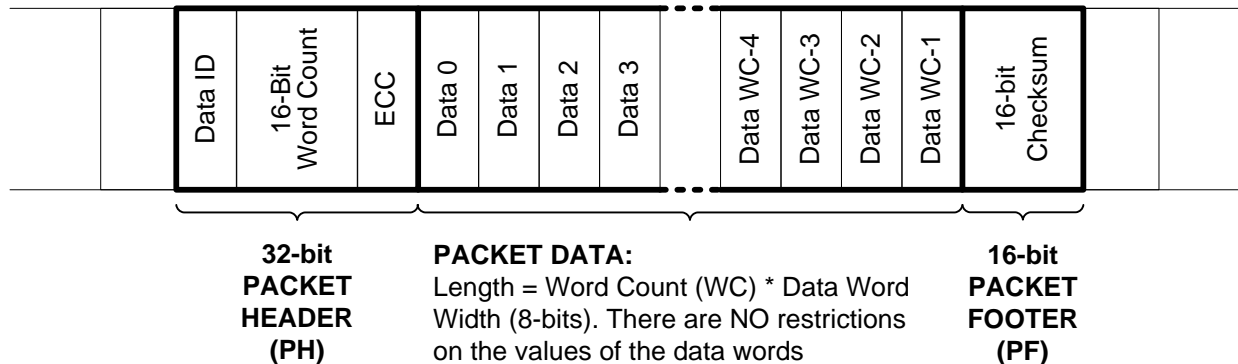

图 22. CSI-2 Long Packet Structure
A long packet consists of three elements: a 32-bit packet header (PH), an application-specific data payload with a variable number of 8-bit data words, and a 16-bit packet footer (PF). The packet header is further composed of three elements: an 8-bit data identifier, a 16-bit word count field, and an 8-bit ECC. The packet footer has one element, a 16-bit checksum. 图 22 shows the structure of a long packet.